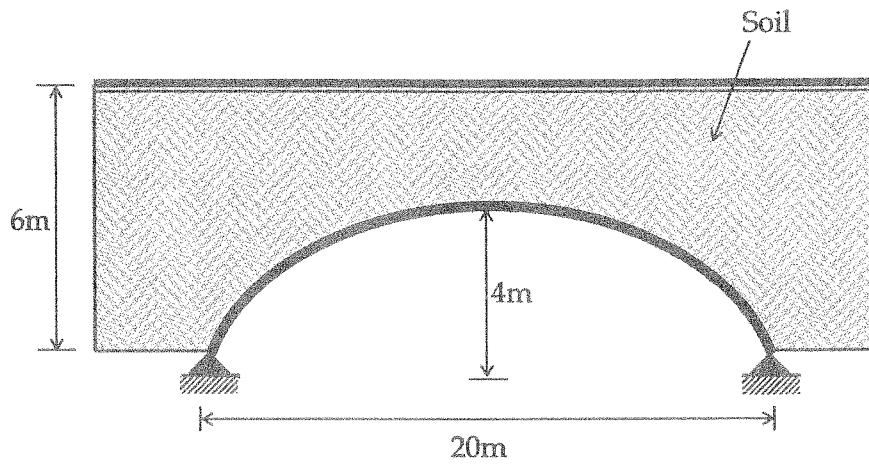

Figure Q1
- b) A two hinged parabolic arch of constant cross section is subjected to a soil fill, as shown in Figure Q1. The span and rise of the arch are 20 m and 4 m respectively. Neglect the horizontal pressure developed by soil. Assume, soil density is 2000 kg/m³. Determine the horizontal thrust at the support due to soil pressure. [14 Marks]